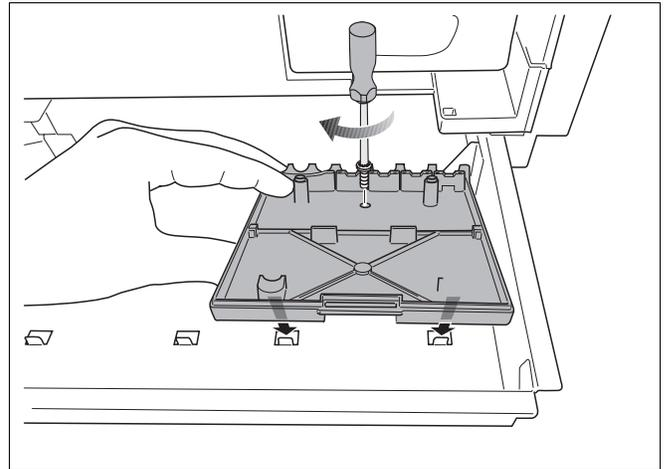

Fig. 35 Installing the wall bracket
- Install the wall bracket in the relevant slots in the drawer (fig. 35).